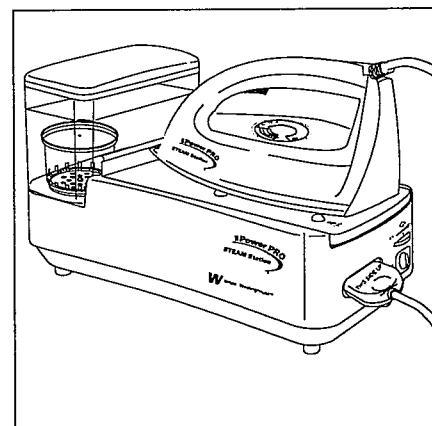

Figure 5
2. You may rest the Iron on its Heel Rest (upright position) or with the Soleplate down on top of the Sliding Cover Rubber Grommets (Figure 5).